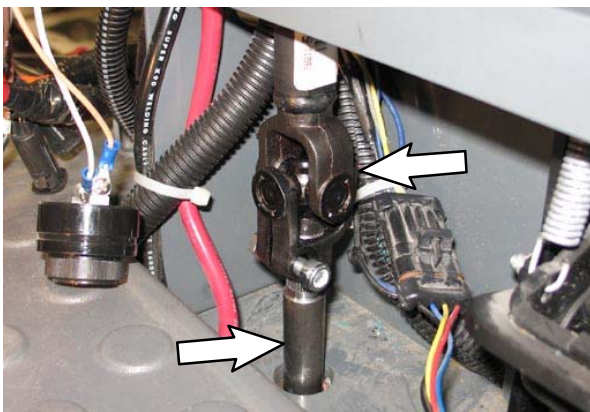

FIG. 63
25. Slide the steering shaft (1) onto the lower steering shaft. (Fig. 63)